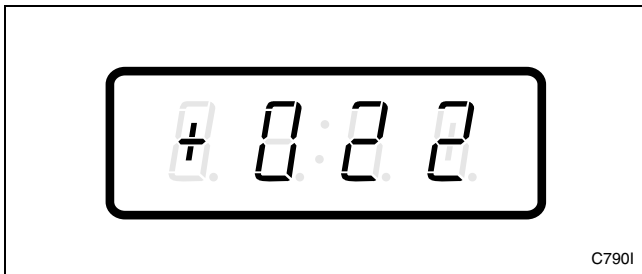

Figure 93
- Press the DELICATES (+) or the COLD (-) keypad to scroll through the programmable options until “+022” appears in the VFD. Refer to *Figure 93*.